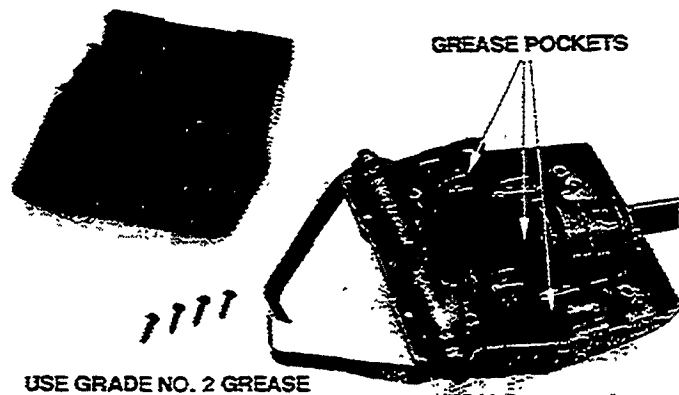

Figure 30
- The weeder/cultivator is internally lubricated at the factory and should not need service. However, if it is used daily or in extremely hard or dusty soil, it is recommended that new grease be supplied by first removing the four (4) upper cover screws, removing the cover and applying grease to the gears and other moving parts (Figure 30).